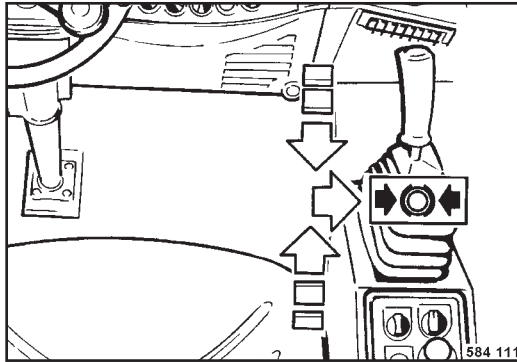

Fig. 33
- Check, whether the travel lever (Fig. 33) is engaged to the right in brake position.